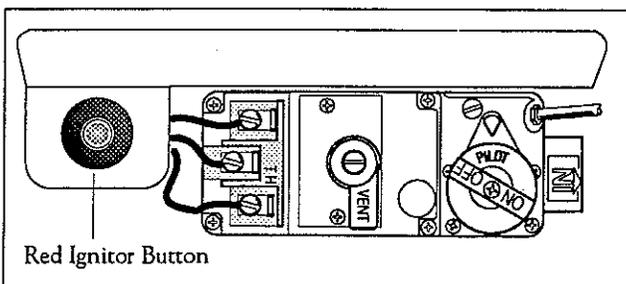
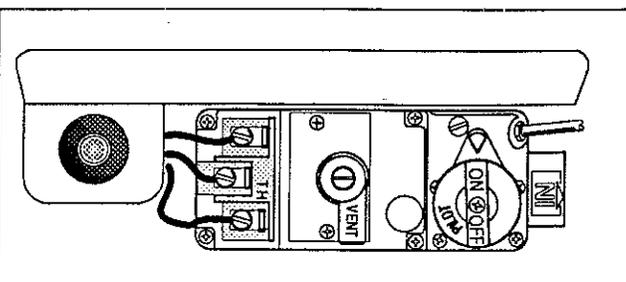

Fig. 3 Gas Control Valve / "PILOT"
Fig. 4 Gas Control Valve / "ON"
**Step 4.** Turn the gas control knob counter-clockwise to "PILOT." Fig. 3.
**Step 5.** Light the pilot by pushing the control knob all the way in and holding it there. Immediately push the red ignitor button; push it more than once if required to light the pilot. Continue to hold the control knob in for about one (1) minute after the pilot is lit. Then, release the knob and it will pop back up. The pilot should remain lit.
**Step 6.** Turn the gas control knob counter-clockwise to "ON." Fig. 4.